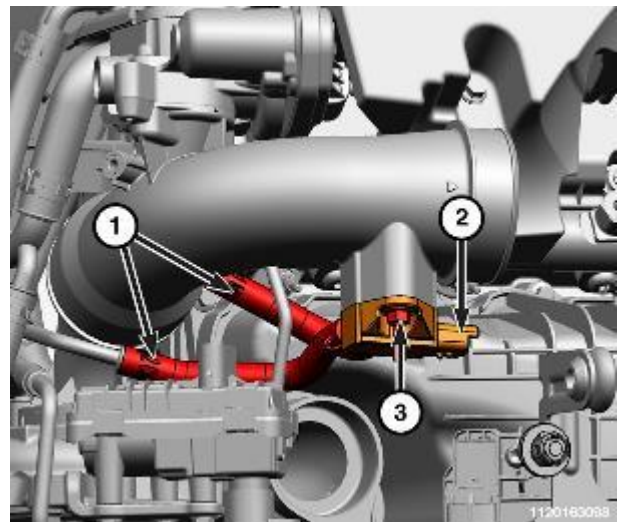

Figure 117 – Differential Pressure Sensor
- 44. Disconnect the differential pressure sensor hoses (1) (Figure 117).
- 45. Remove the differential pressure sensor nut (3) and the differential pressure sensor (2) (Figure 117).